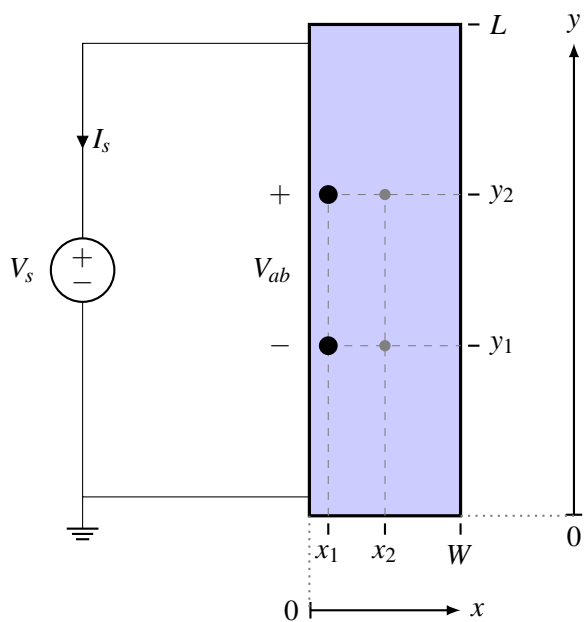

Figure 4: Top view of resistive touchscreen showing voltage  $V_{ab}$ .
- (c) Assume  $V_{ab}$  is the voltage measured between the nodes represented by touchscreen coordinates  $(x_1, y_1)$  and coordinates  $(x_1, y_2)$ , as shown in Figure 4. Calculate the absolute value of  $V_{ab}$ . As with the previous part, you should first draw the circuit diagram representing Figure 4, which includes  $V_{ab}$ . Calculate all resistor values in the circuit. *Hint: Try representing the segment of the touchscreen between these two coordinates as a separate resistor itself.*
- (d) Calculate (the absolute value of) the voltage between the nodes represented by touchscreen coordinates  $(x_1, y_1)$  and coordinates  $(x_2, y_1)$  in figure 4.
- (e) Calculate (the absolute value of) the voltage between the nodes represented by touchscreen coordinates  $(x_1, y_1)$  and coordinates  $(x_2, y_2)$  in figure 4.